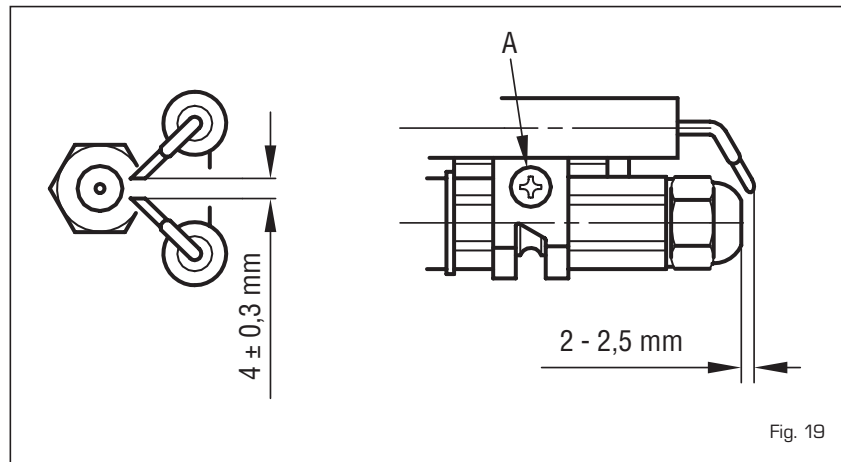

Fig. 19
4.4.2 Cleaning combustion head (fig. 19)
The combustion head is cleaned in the following manner (fig. 19):
- Loosen the fixture screw [A fig. 19] of the electrodes support and remove it.